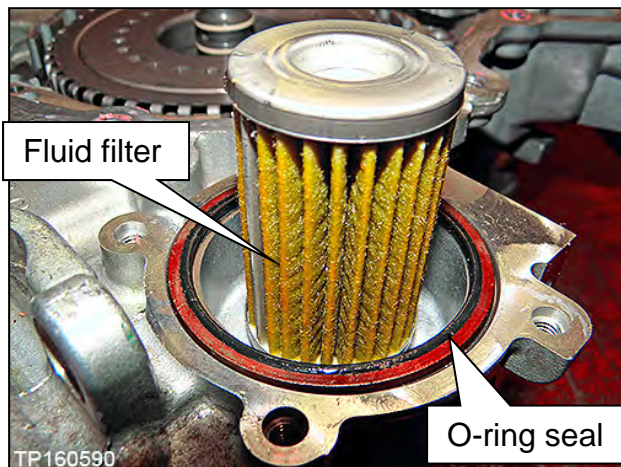
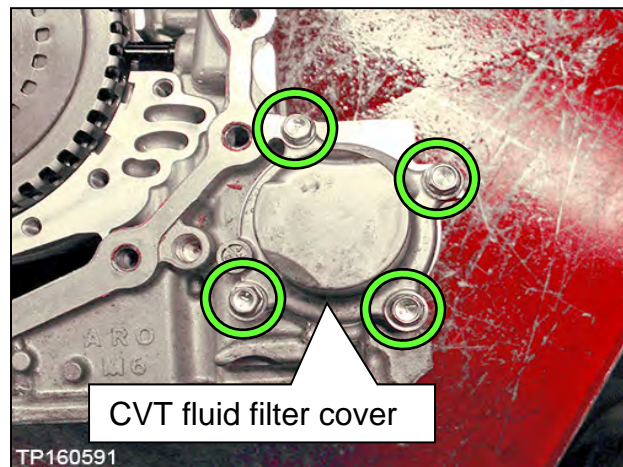

Figure 69
Figure 70
47. Install the CVT fluid filter and components (Figure 69 and Figure 70).